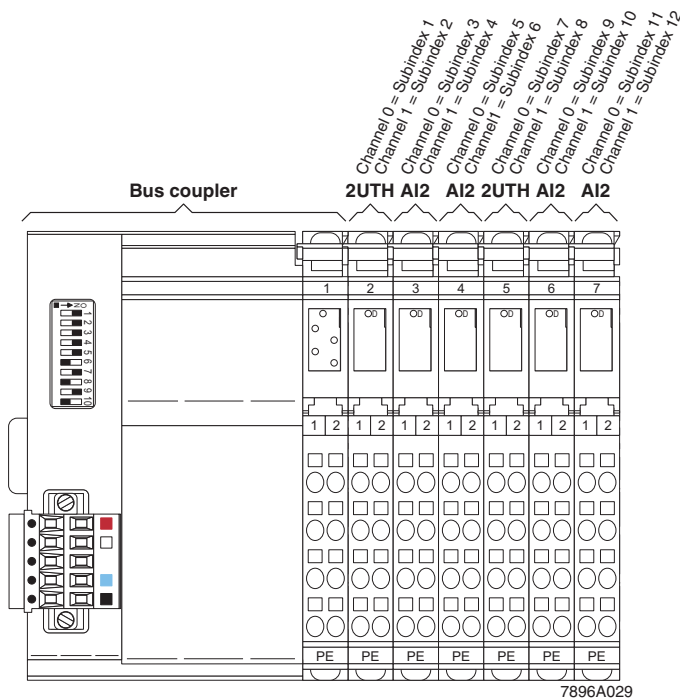

Figure 4-2 I/O station with analog input modules and thermocouple modules
See Figure 4-2. This example will be used to explain how to reconfigure the range of the first AI 2 module (channel 2) to the bipolar 10 V range and to change the format to "IB ST" (12 bits).
- 1 Determine which subindex channel 2 of the first AI 2 module (second I/O module) resides in. In this case the second channel of the first AI 2 module will occupy subindex 4 of the 16-bit Analog Input Object (6401_{hex}). In Figure 4-2, the UTH module occupies subindexes 1 and 2, and channel 1 if the first AI 2 module occupies subindex 3. If the user is having difficulty locating the specific index for the object or subindex for the output word, an SDO can be sent to the following object with the following indexes:
The user must keep track of which subindexes are analog inputs and which subindexes are thermocouple inputs or RTD modules (not shown in Figure 4-2 on page 4-6). Figure 4-2 shows a station where subindexes 1 and 2 of the Analog Input Object, Index 6401_{hex} are used by the 2-channel thermocouple. Subindexes 3, 4, 5 and 6 of the Analog Input Object are used by the next two, 2-channel analog modules. Subindexes 7 and 8 of the Analog Input Object are used by the next 2 channel thermocouple module. The last two, 2-channel analog input modules occupy subindexes 9, 10, 11 and 12.